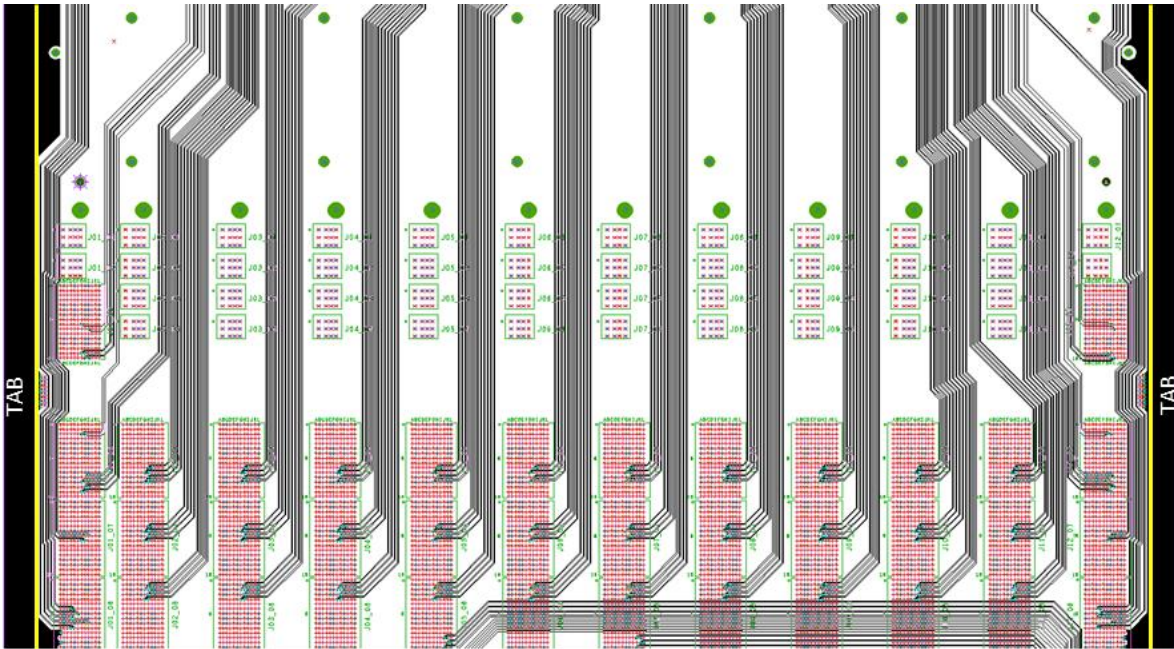

Figure 4 An example of a portion of an inner layer routing of high-speed differential pairs in a backplane
Figure 4 shows an example of a portion of an inner layer of a large backplane. There are 12 columns of connectors for each of the respective card slots. Connector placements on the left and right side of the PCB are fairly close to the PCB finished edges, shown in yellow. As you can see, there are also traces routed between the respective connectors and both edges of the PCB. The other signal layers have similar routing along the edges.
- Extending the copper on all layers past the finished edge of the board so plating can take hold. This can be seen in Figure 4 by the black copper fill extending past the yellow lines denoting the finished edges.
Referring back to Figure 4 you can see two tab locations, with associated stitching vias, were strategically placed in the open space between connectors on each side of the board. Also note that the routing of the traces needed to jog around the stitching vias. Had two rows of fencing vias been used around the whole perimeter, instead of edge plating, routing any traces between the connectors and edges of the board would have been limited. This would have severely impacted the board layout by adding additional layers and cost.
An example of an unplated tab and two staggered rows of stitching vias can be seen in Figure 5. The picture is from the same backplane I just described in Figure 4. The tab location is the right hand tab location shown in Figure 4.